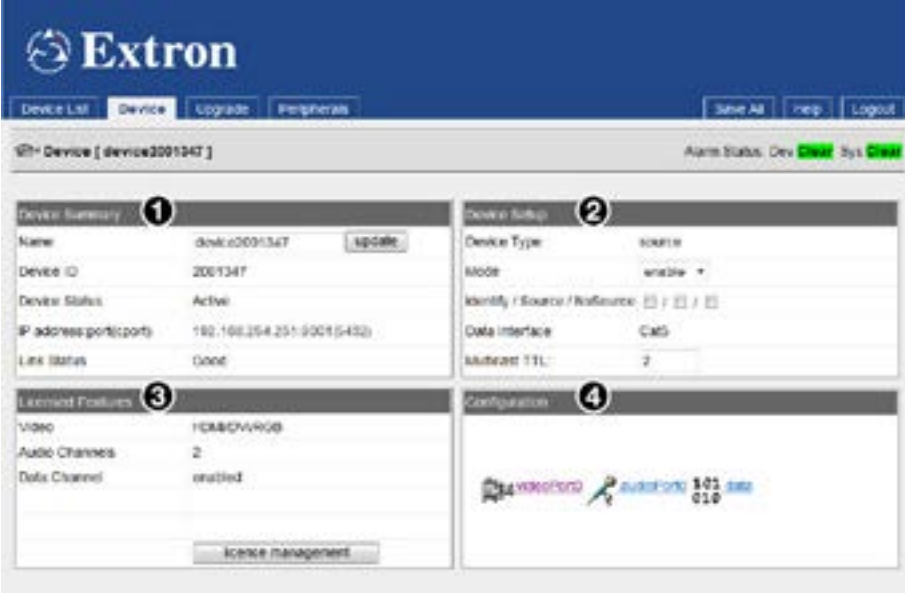

Figure 29. VN-Matrix Encoder Device Tab
Device Summary (see figure 29, ①)— provides information about the device:
Licensed Features (see figure 29, ③, on the previous page) — allows you to license features on the VNM 250 series of units. Since all VNM 250 units are supplied fully licensed, the **license management** button is not needed by an end user and should not be used.